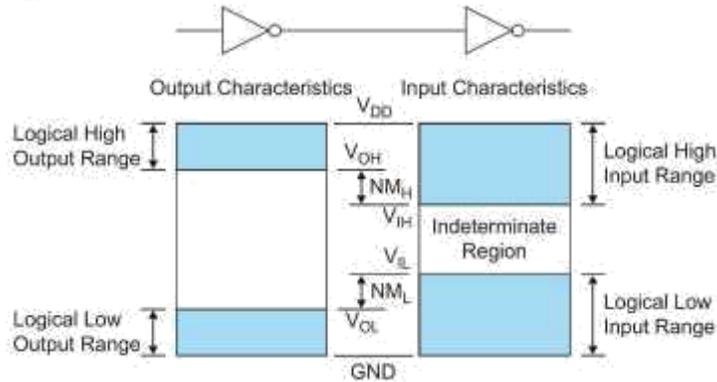

**Figure 13: Transfer characteristics of skewed inverters**
- ✓ The supply current  $I_{DD} = I_{dsn} = |I_{dsp}|$  is plotted against  $V_{in}$  in Figure 13(d) showing that both transistors are momentarily ON as  $V_{in}$ .
- ✓ Figure 13, shows the impact of skewing the beta ratio on the DC transfer characteristics.